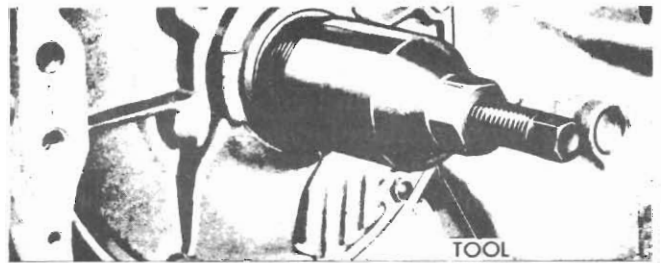

Fig. 27 - Removing pump oil seal (typical view)
(1) Screw remover Tool E21C35G into Seal (Fig. 27), then tighten screw portion of tool to withdraw the seal.